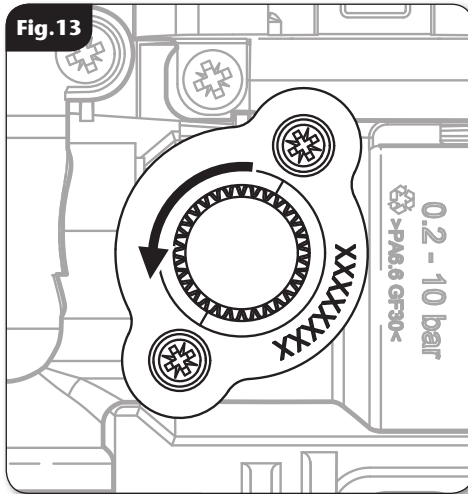

Fig. 13
- Turn the valve spindle anti-clockwise until it stops (**fig.13**).
- See (fig.13 & 14 on page 12) for the correct positions of the temperature spindle and temperature knob.